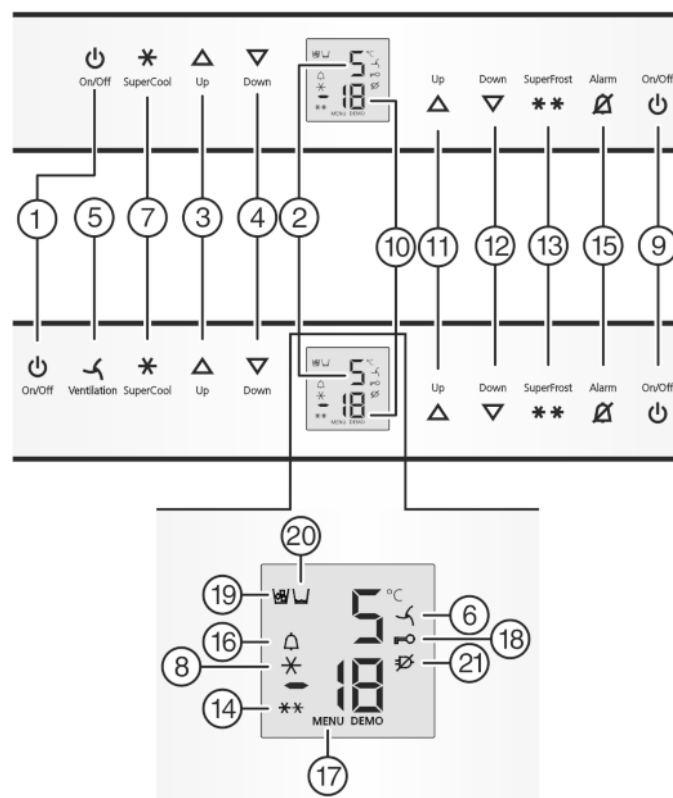

Fig. 2
- Press On/Off button, freezer compartment *Fig. 2 (9)*.
- Press On/Off button, refrigerator compartment *Fig. 2 (1)*.
- To activate the setting mode: press SuperFrost button *Fig. 2 (13)* for about 5 s.
- ▷ The menu symbol *Fig. 2 (17)* shines.
- Briefly press the SuperFrost button *Fig. 2 (13)* to confirm. When **cl** is indicated in the display:
- To activate the child lock, briefly press the SuperFrost button *Fig. 2 (13)*.
- ▷ The child lock symbol *Fig. 2 (18)* shines. **c** flashes in the display.
- to deactivate the child lock, briefly press the SuperFrost button *Fig. 2 (13)*.
- ▷ The child lock symbol *Fig. 2 (18)* goes out. **c** flashes in the display.
- To deactivate the set-up mode: press On/Off button, freezer compartment *Fig. 2 (9)*.
- Press alarm button *Fig. 2 (15)*.
The temperature display and the alarm symbol *Fig. 2 (16)* flash at the same time.